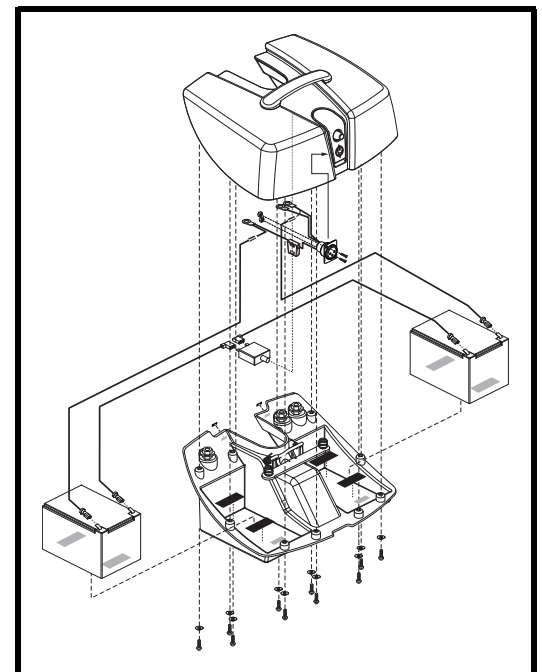

Figure 22. Go-Chair Battery Box
3. Remove all screws that hold the battery box halves together. See figure 22.